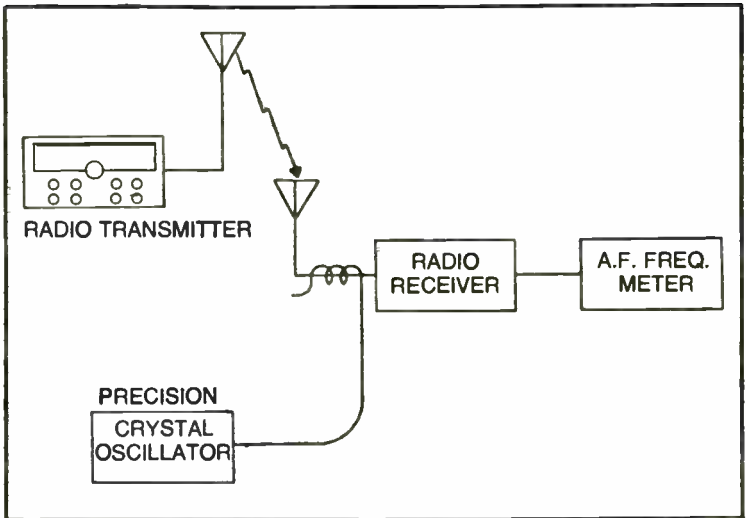

Fig. 21-14. Crystal oscillator.
**Crystal calibrators.** Figure 21-14 shows the use of a crystal calibrator and a receiver to measure frequency. The principle components are a precision crystal oscillator, a radio receiver that will tune to the frequency being measured, and an audio frequency meter. The output of the crystal oscillator is coupled to the receiver antenna through a gimmick or a small value capacitor, such as 7 to 33 pF.